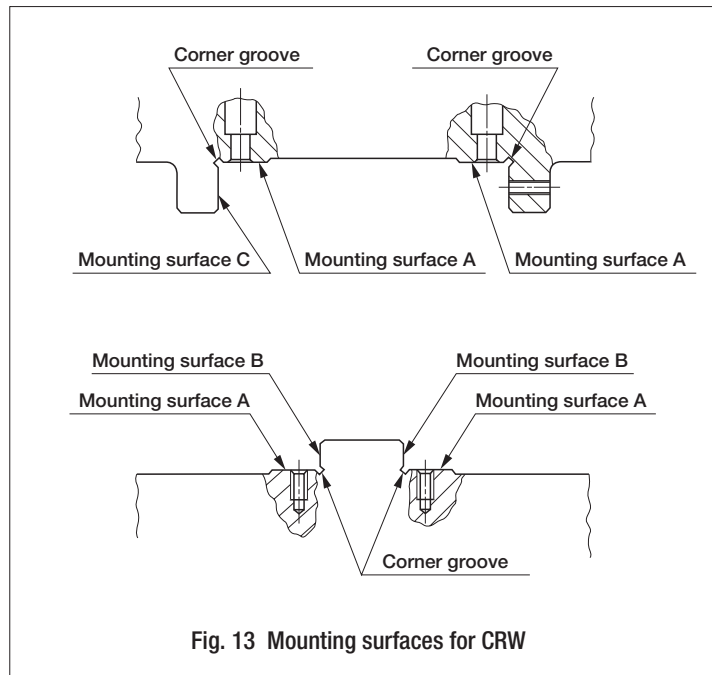

Fig. 13 Mounting surfaces for CRW
- After closely fitting the ways to B surfaces (See Fig. 13.), tighten the mounting screws uniformly to the prescribed tightening torque.